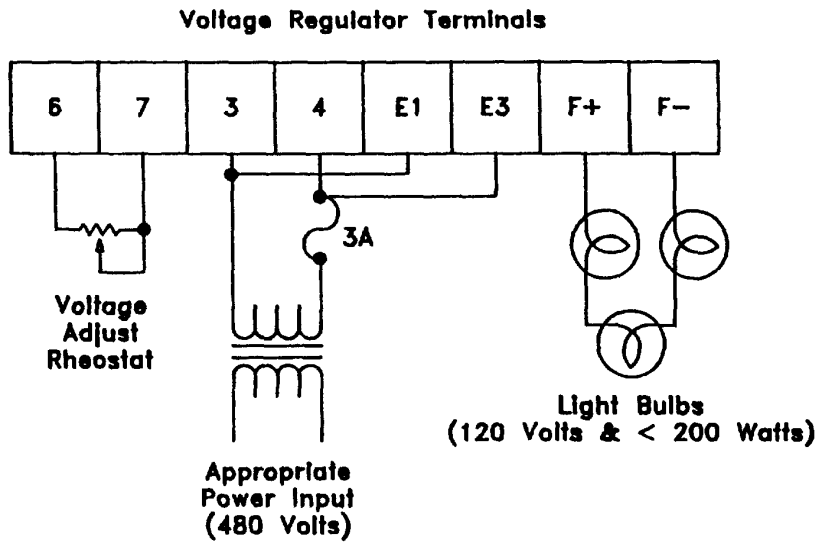

Figure 5-4 Voltage Regulator Basic Operational Checkout Connection Schematic
During troubleshooting of the voltage regulator, the importance of eliminating wiring errors cannot be over-emphasized. Incorrect connections can result in many of the trouble symptoms listed in Table 5-1 and can cause damage to, or even failure of the voltage regulator. Once wiring errors are ruled out as a possible cause of trouble, the following basic test can be performed to determine if the voltage regulator is operational. (Refer to Figure 5-2 and Figure 5-4):
2. Connect voltage regulator as shown in Figure 5-4, using three light bulbs connected in series. The three light bulbs should be identical and rated for 120V and less than 200W.